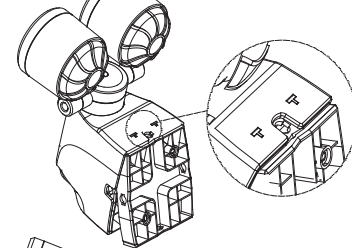

FIGURE 5
8. Place the fixture to the back plate. Secure the fixture using the small set screw. (see Fig. 5)